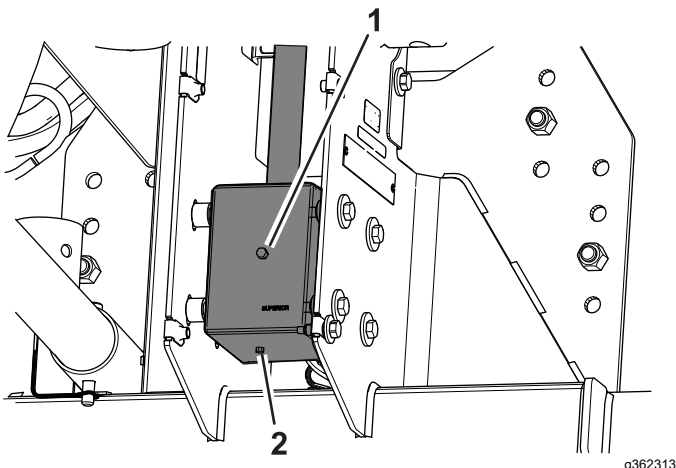

Figure 25
4. Remove the check/fill plug from the side of the gearbox (Figure 25).